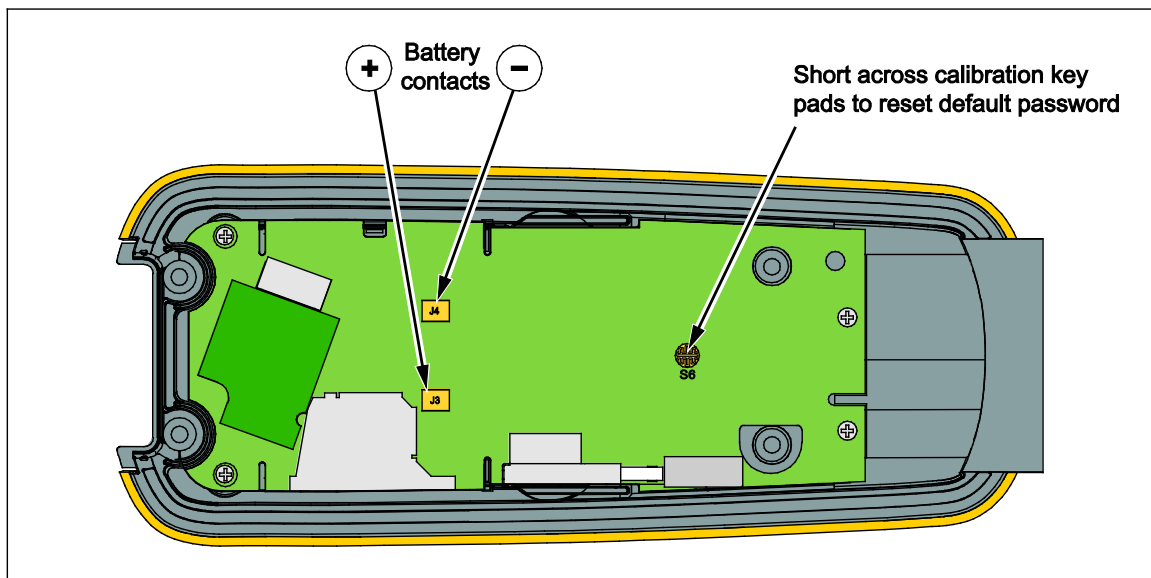

Figure 3. Calibration Password Reset
4. Apply 3.0 V across the battery contacts on the pca. Note the polarity that is shown in Figure 3.
6. Short across the CAL keypad on the pca. See Figure 3. The default password is now restored.